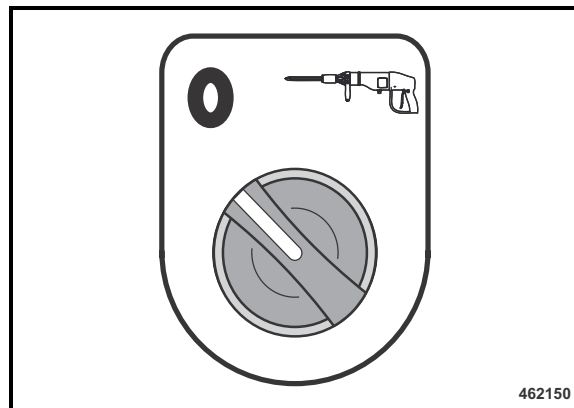

Fig. 61
- Turn the rotary switch for hydraulic breaker (Fig. 61) anti-clockwise to position "0".